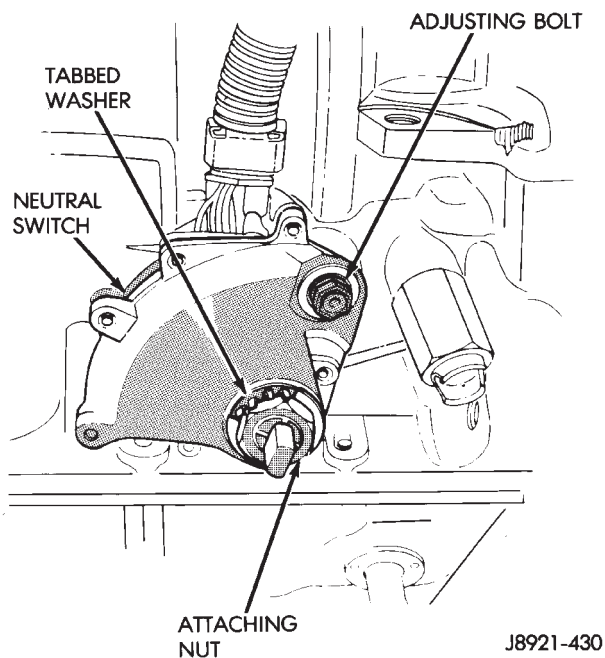

Fig. 43 Park/Neutral Position Switch Removal/Installation
- (1) Raise vehicle.
- (2) Disconnect switch wire harness connector.
- (3) Pry washer lock tabs upward and remove switch attaching nut and tabbed washer (Fig. 43).
- (4) Remove switch adjusting bolt (Fig. 43).
- (5) Slide switch off manual valve shaft.